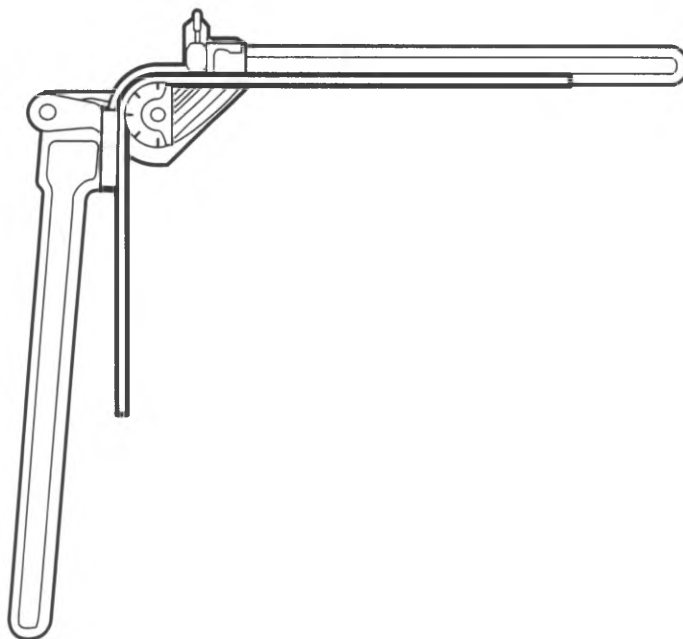

Figure 4-24, Brake Pipe Tube Bender
2. Using the tubing bender, bend the tubing in the shape of the stiff wire (figure 4-24).